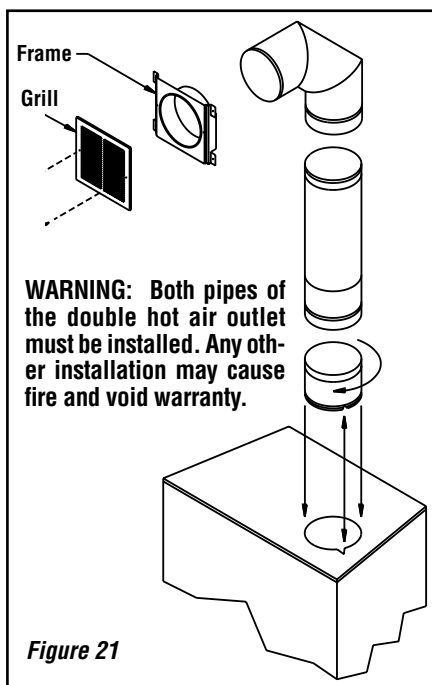

Figure 21
(See **Figure 21**)
1. Remove the plates closing up the 8" (203mm) diameter holes on top of the fireplace. Then, cut the insulation in order to obtain two 8" (203mm) diameter openings. Fix the adaptors on the fireplace openings by turning clockwise (see **Figure 21**).